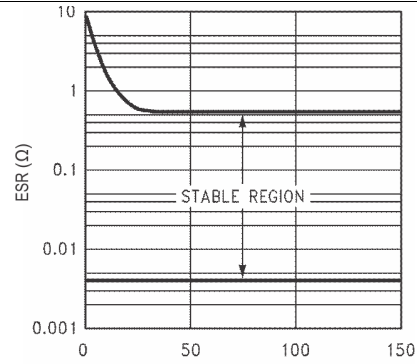

Figure 20. 2.2- μF /3.3- μF Stable ESR Range for Output Voltage $\geq 2.5 V$
- ESR range: see Figure 18 through Figure 20